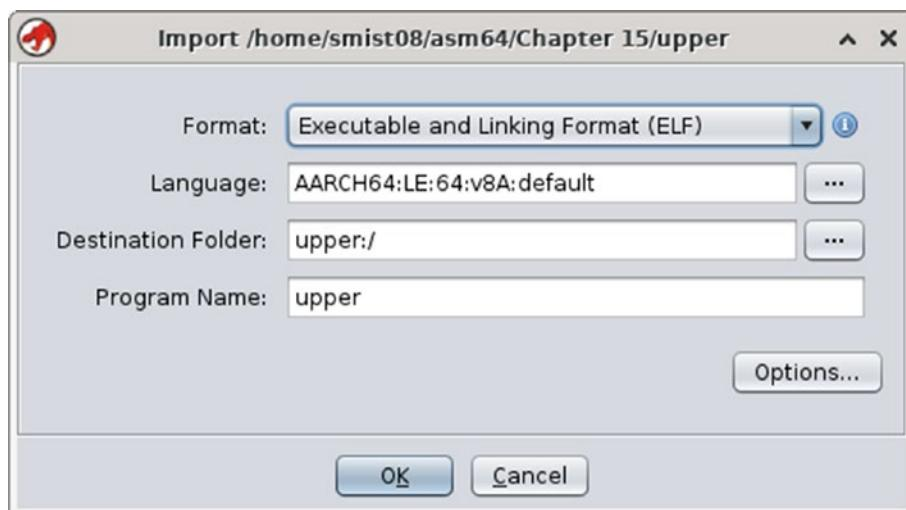

Figure 15-1. High-level information on the upper executable
1. Create a project in Ghidra, import our upper program, and we get an information dialog shown in Figure 15-1.